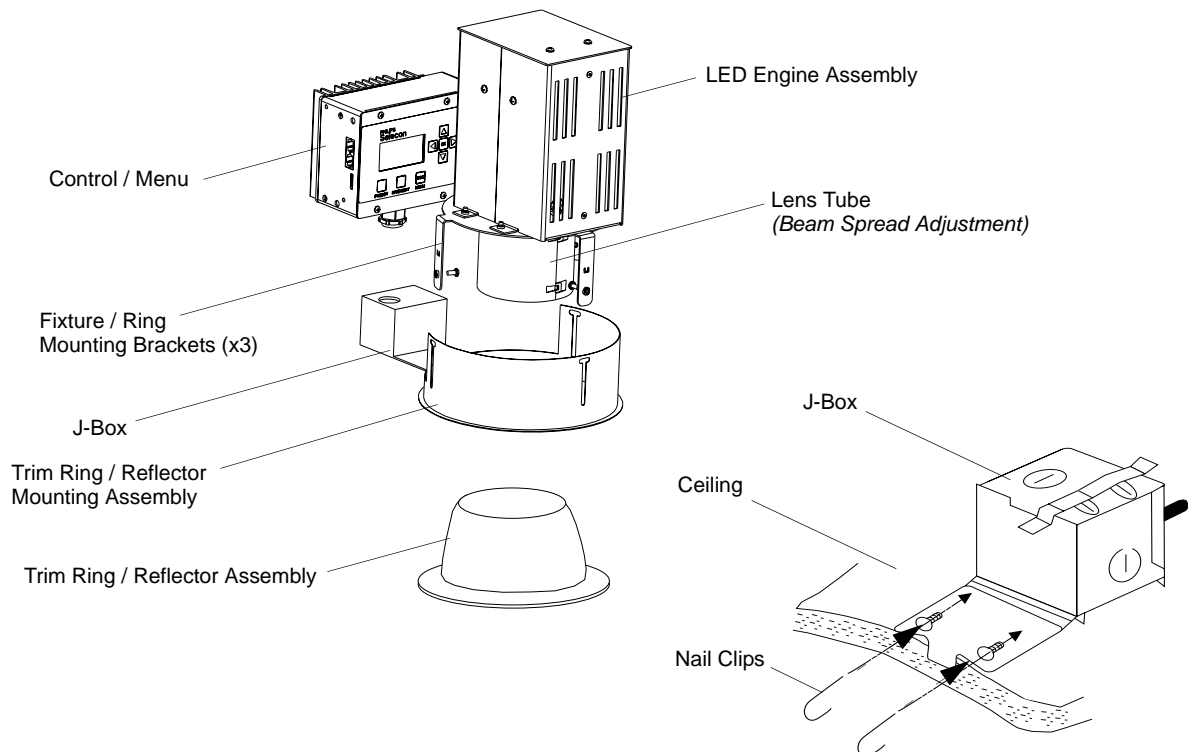

Figure 9: PL House LED Luminaire
- Step 3. Mount and secure luminaire assembly into ceiling using nail clips shown in **Figure 9**. Adjust luminaire assembly depth/height by setting trim ring / reflector mounting assembly in relation to fixture / ring mounting brackets.